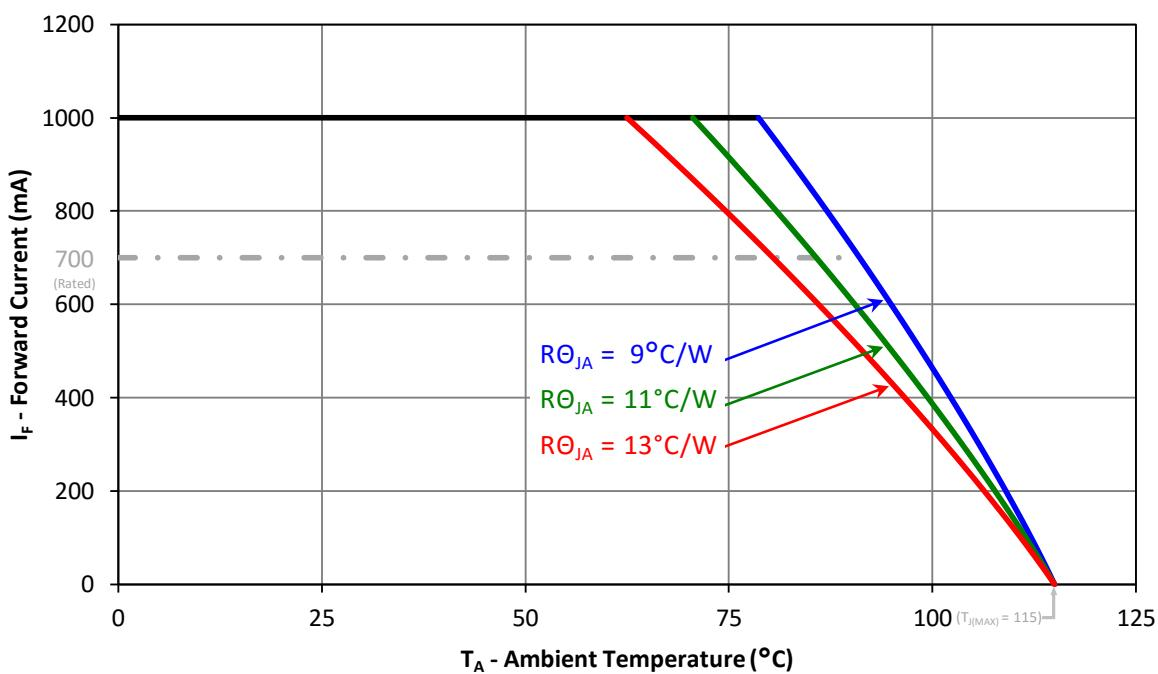

Figure 11: Maximum forward current vs. ambient temperature based on $T_{J(MAX)} = 115^{\circ}\text{C}$
1. Maximum DC forward current is determined by the overall thermal resistance and ambient temperature. Follow the curves in Figure 11 for current derating.
Notes for Figure 11: